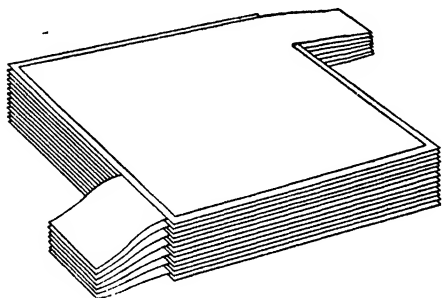

Fig. 49. Sketch of Condenser
**Condenser.** The condenser is technically known as an electrical "capacity" in that it has the ability to absorb a quantity of electricity proportioned to the area of its conducting surfaces and to the nature of the dielectric employed. This property is utilized to absorb the excess current passing at the moment the primary circuit of the ignition system is opened by a vibrator, thus bringing about a quick cessation of the current flow and preventing the destructive arcing or burning that would otherwise occur at the contact points. The charge thus absorbed is immediately returned to the circuit in the form of a discharge, when the points come together again and a higher potential value is impressed upon the current. A condenser consists of conducting surfaces placed between insulating surfaces, known as the dielectric. For ignition work, the conducting surfaces are sheets of thin tinfoil cut with conducting tabs which project beyond the ends of sheets of paraffined paper on which the tinfoil is placed. Between each two sheets of paraffined paper is placed a sheet of tinfoil, the latter being arranged so that the tabs project at alternate ends, Fig. 49. The paraffined paper